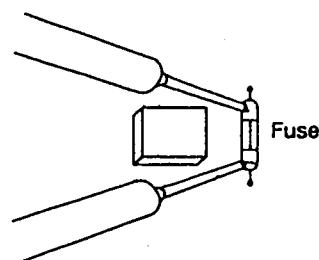

Fig. 5
- Check for continuity using a multimeter as shown in Fig.5.